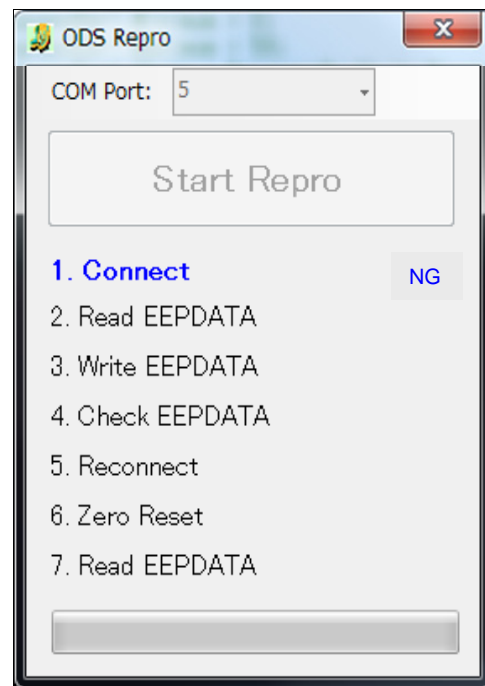

Figure 20
- If the OCS reprogramming stops (displays NG) at item 1, 2, 3 or 4, refer to Figures 20 through 23 on pages 13 and 14.
- Figures 20 through 26 on pages 13 through 16 are provided as reference if the OCS reprogramming stops (displays NG) at one of the items (1-7).